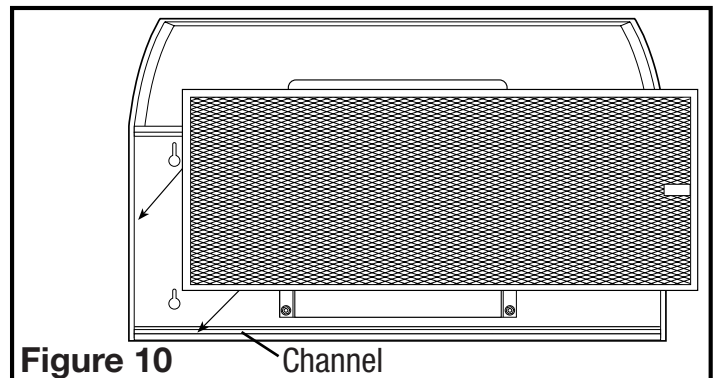

Figure 10
2. Reinstall the filter by fitting into the channel of the hood and pushing upwards until it is secured in place (Figure 10).